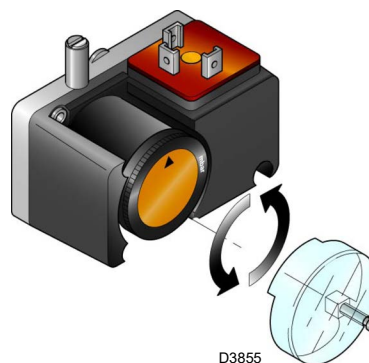

Fig. 33
- Adjust the pressure switch for the leak detection control (PVP kit)(Fig. 33 on page 34) according to the instructions supplied with the kit.
Adjust the pressure switch for the leak detection control (PVP kit) (Fig. 33) according to the instructions supplied with the kit.